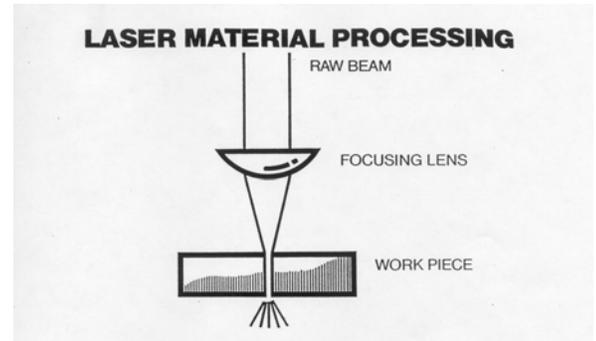

Figure 1. Laser Processing Factors
There are three (3) main factors to consider in the laser processing of a specific material. (Refer to Figure 1 on following page.)